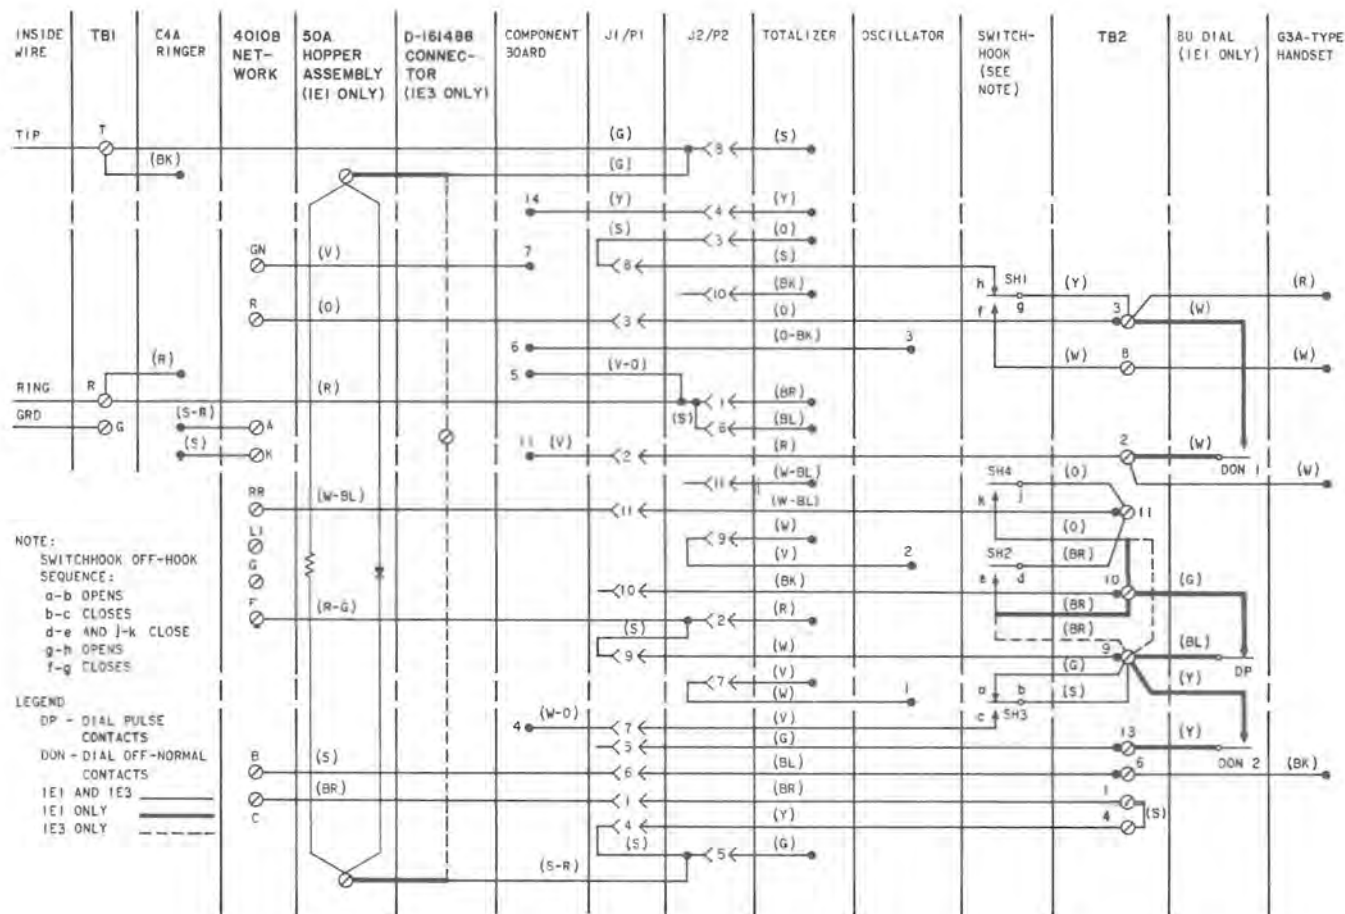

Fig. 14—1E1 and 1E3 Coin Telephone Sets—Connections
- 5.01 Refer to Fig. 14 for connecting diagram.